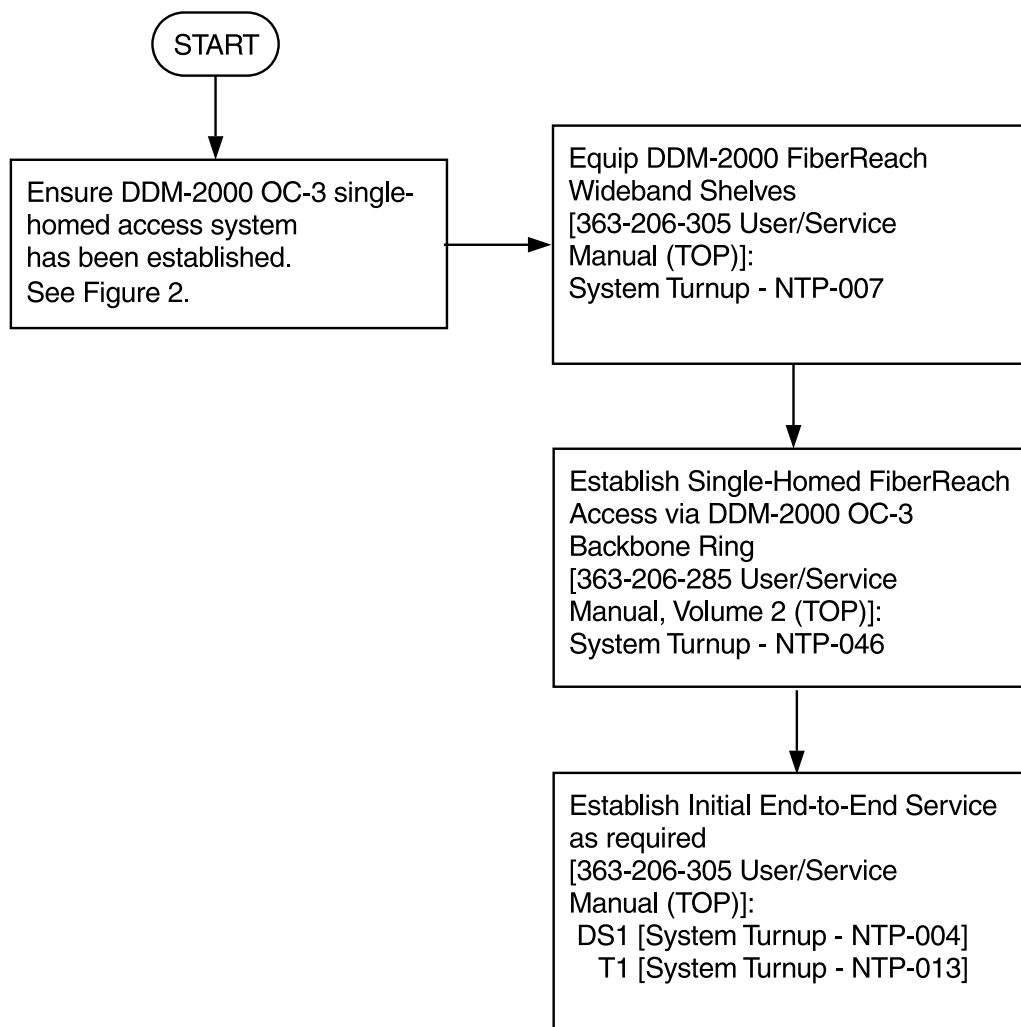

Figure 4. DDM-2000/FT-2000 Large Network Configurations — Single Homed FiberReach Access via DDM-2000 OC-3 Backbone Ring
- Figure 4 Single-Homed FiberReach Access via DDM-2000 OC-3 Ring